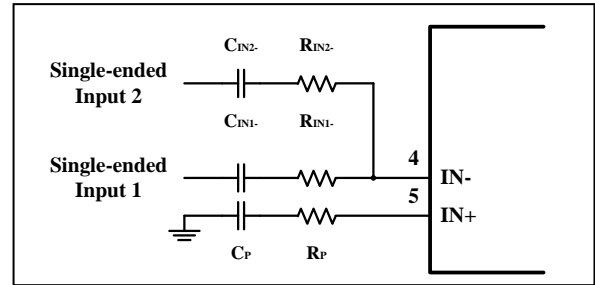

Figure 16 Application Circuit with Summing Two Single-Ended Inputs
The gain and corner frequencies (f_{C1} and f_{C2}) for each input source can be set independently (see equations (11) through (14), and Figure 16). Resistor, R_P , and capacitor, C_P , are needed on the IN+ terminal to match the impedance on the IN- terminal.